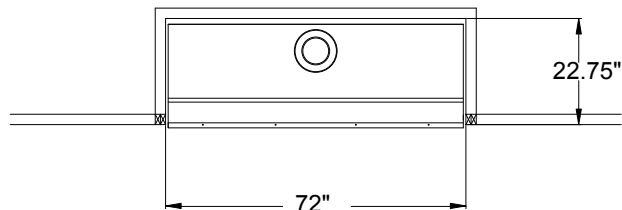
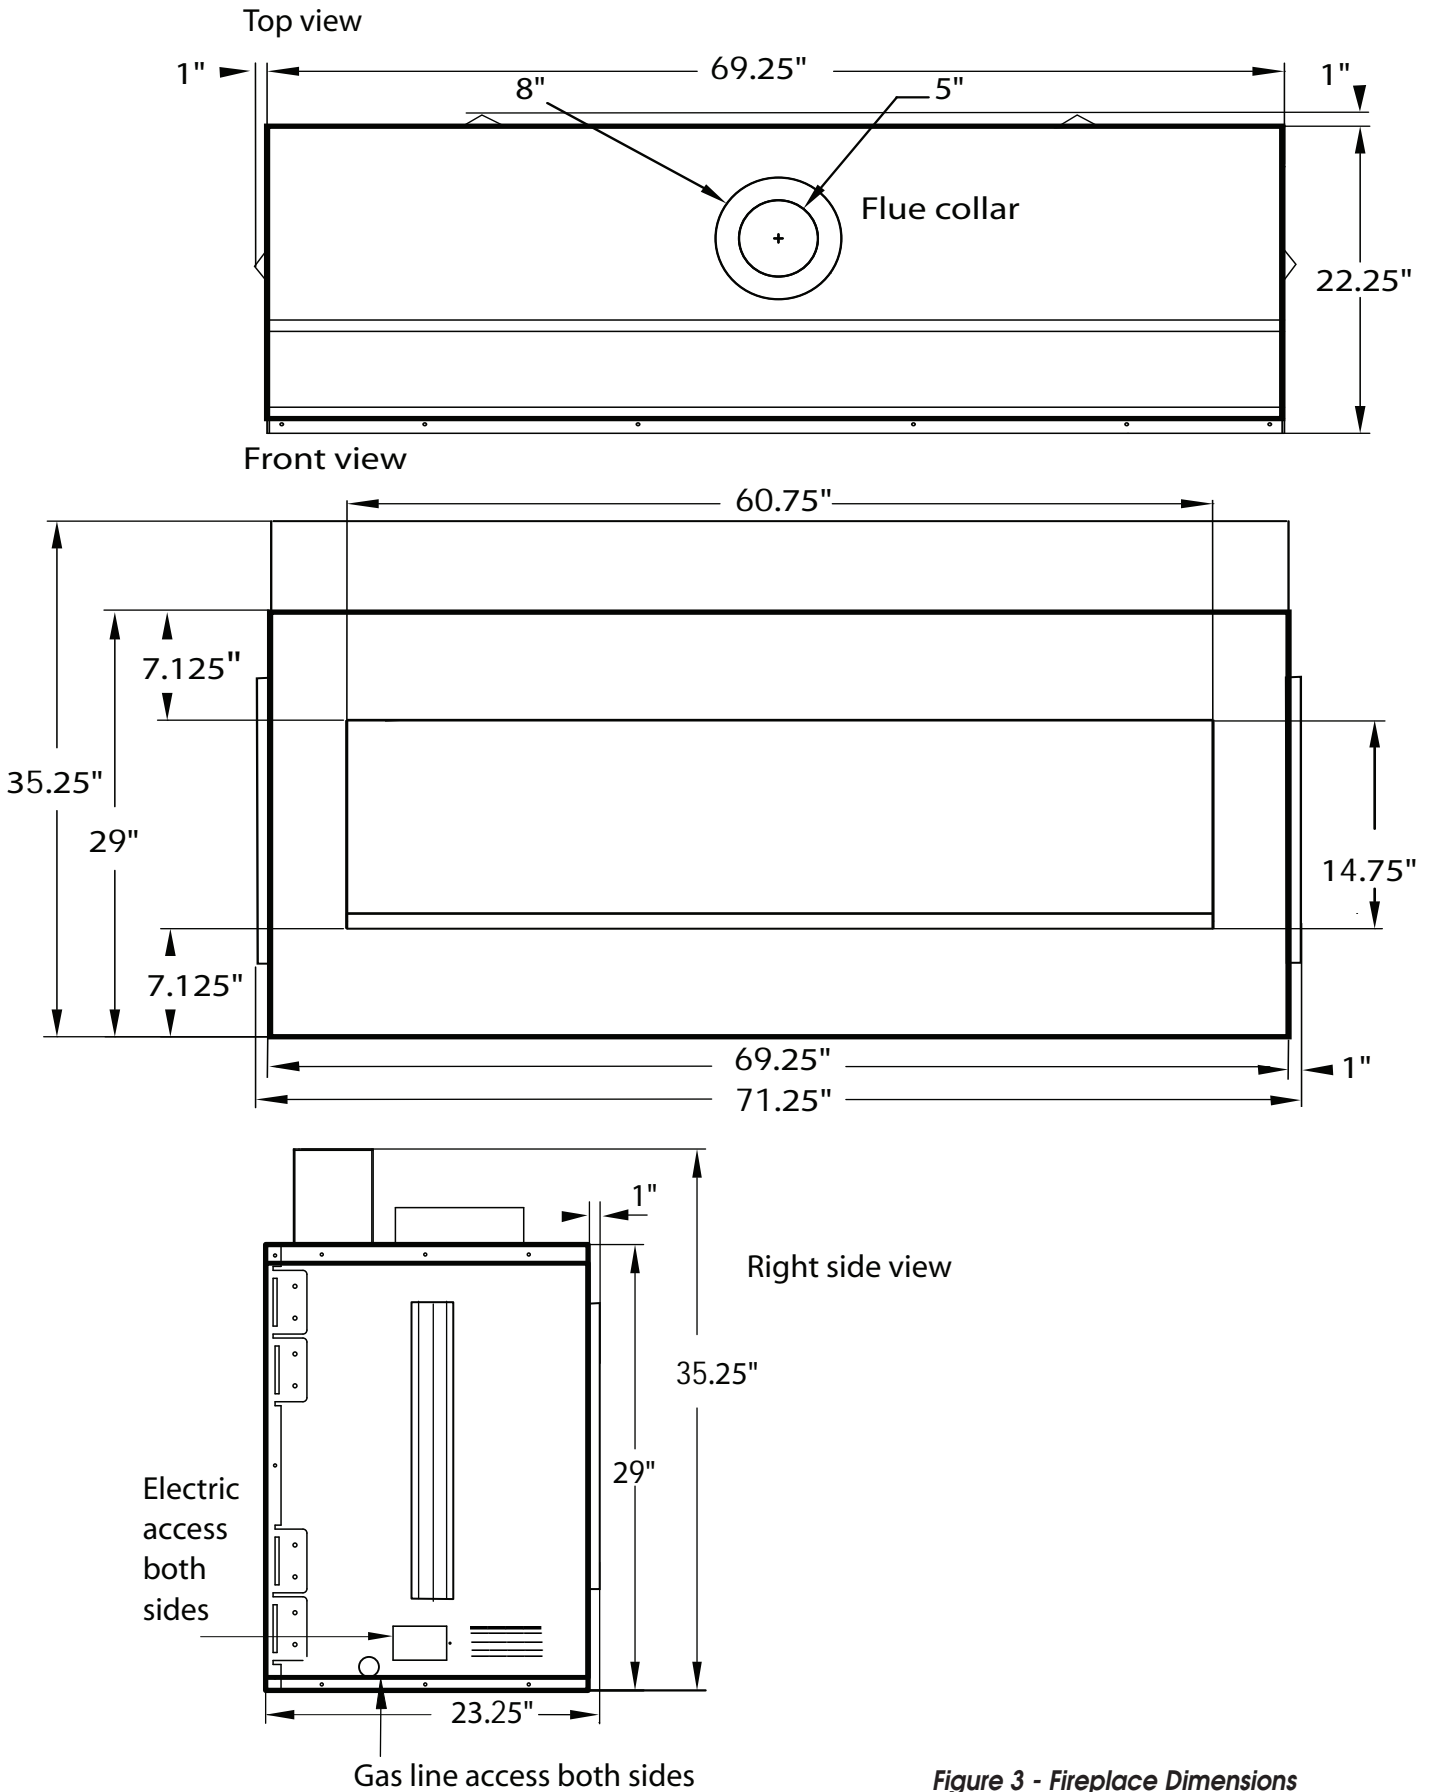

Figure 2 - Framing Dimensions
Figure 3 - Fireplace Dimensions
Firebox framing can be built before or after the appliance is set in place. Construct firebox framing following *Figure 2* and the chart below for your specific installation requirements. See *Figure 3* on Page 8 for firebox dimensions. The framing headers may rest on the top of the firebox standoff.
2. Minimum outside dimensions of the material over the facing are 72" x 35-1/2" (see *Figure 2*).